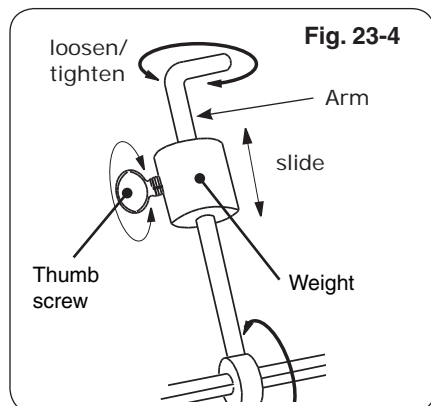

Fig. 23-4
9. Slide the counterbalance weight up or down the arm until the rod rotates most evenly then tighten thumb screw (Fig. 23-4 and Fig. 23-5).